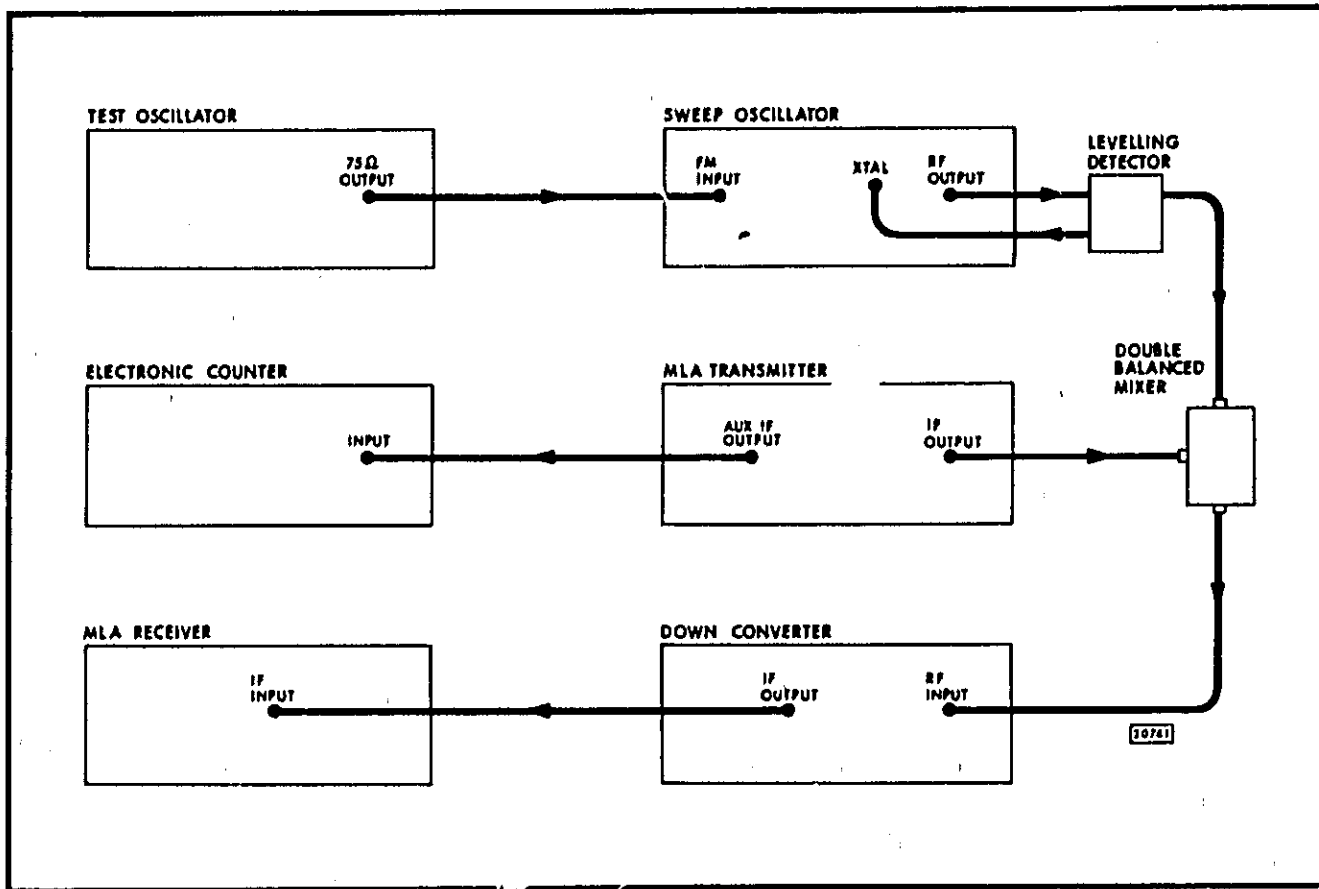

Figure 3-3 General Set-up 2
6. Connect the 3730A IF OUTPUT to the MLA receiver IF input. The equipment set-up should now be as shown in Figure 3-3.